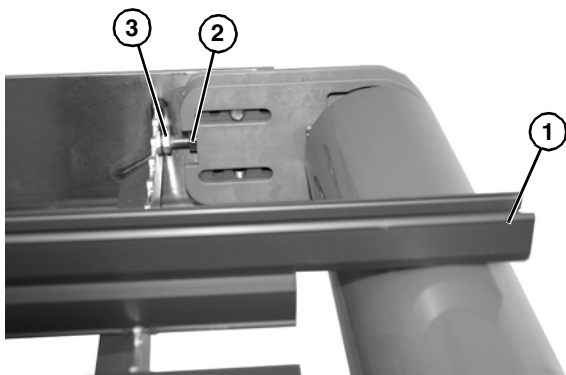

Figure 66
10. Check level of head plate by placing a bed rail (Figure 66, item 1) onto top of conveyor frame and head plate.
11. Loosen nut (Figure 66, item 2) and tighten or loosen bolt (Figure 66, item 3) to move head plate up or down to level with conveyor bed rail.